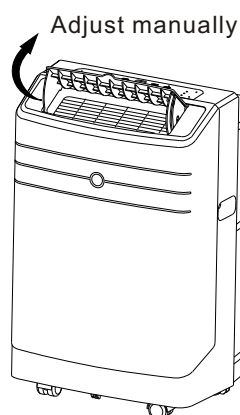

Fig.5
• **Adjust the air flow direction manually (Fig.5):**